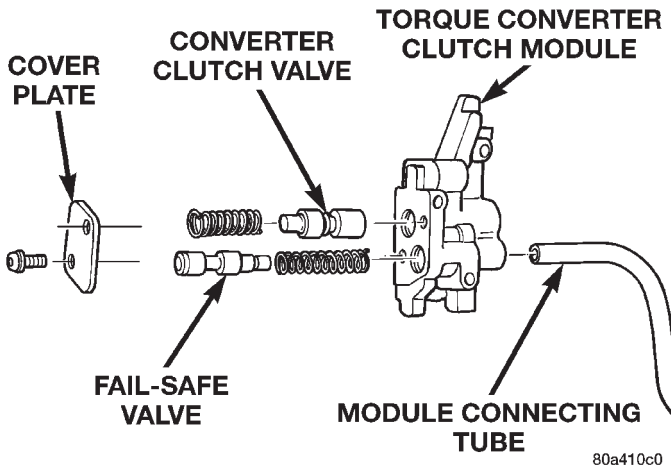

Fig. 64 Converter Clutch Valve Module
(29) Insert converter clutch valve and spring into converter clutch valve module (Fig. 64). Verify valve components slide freely.
(30) Insert spring and fail-safe valve into converter clutch valve module (Fig. 64). Verify valve components slide freely.
(31) Place cover plate in position on converter clutch valve module (Fig. 64).
(32) Install screws to attach cover to converter clutch valve module (Fig. 64).
(33) Insert connecting tube into converter clutch valve module (Fig. 64).